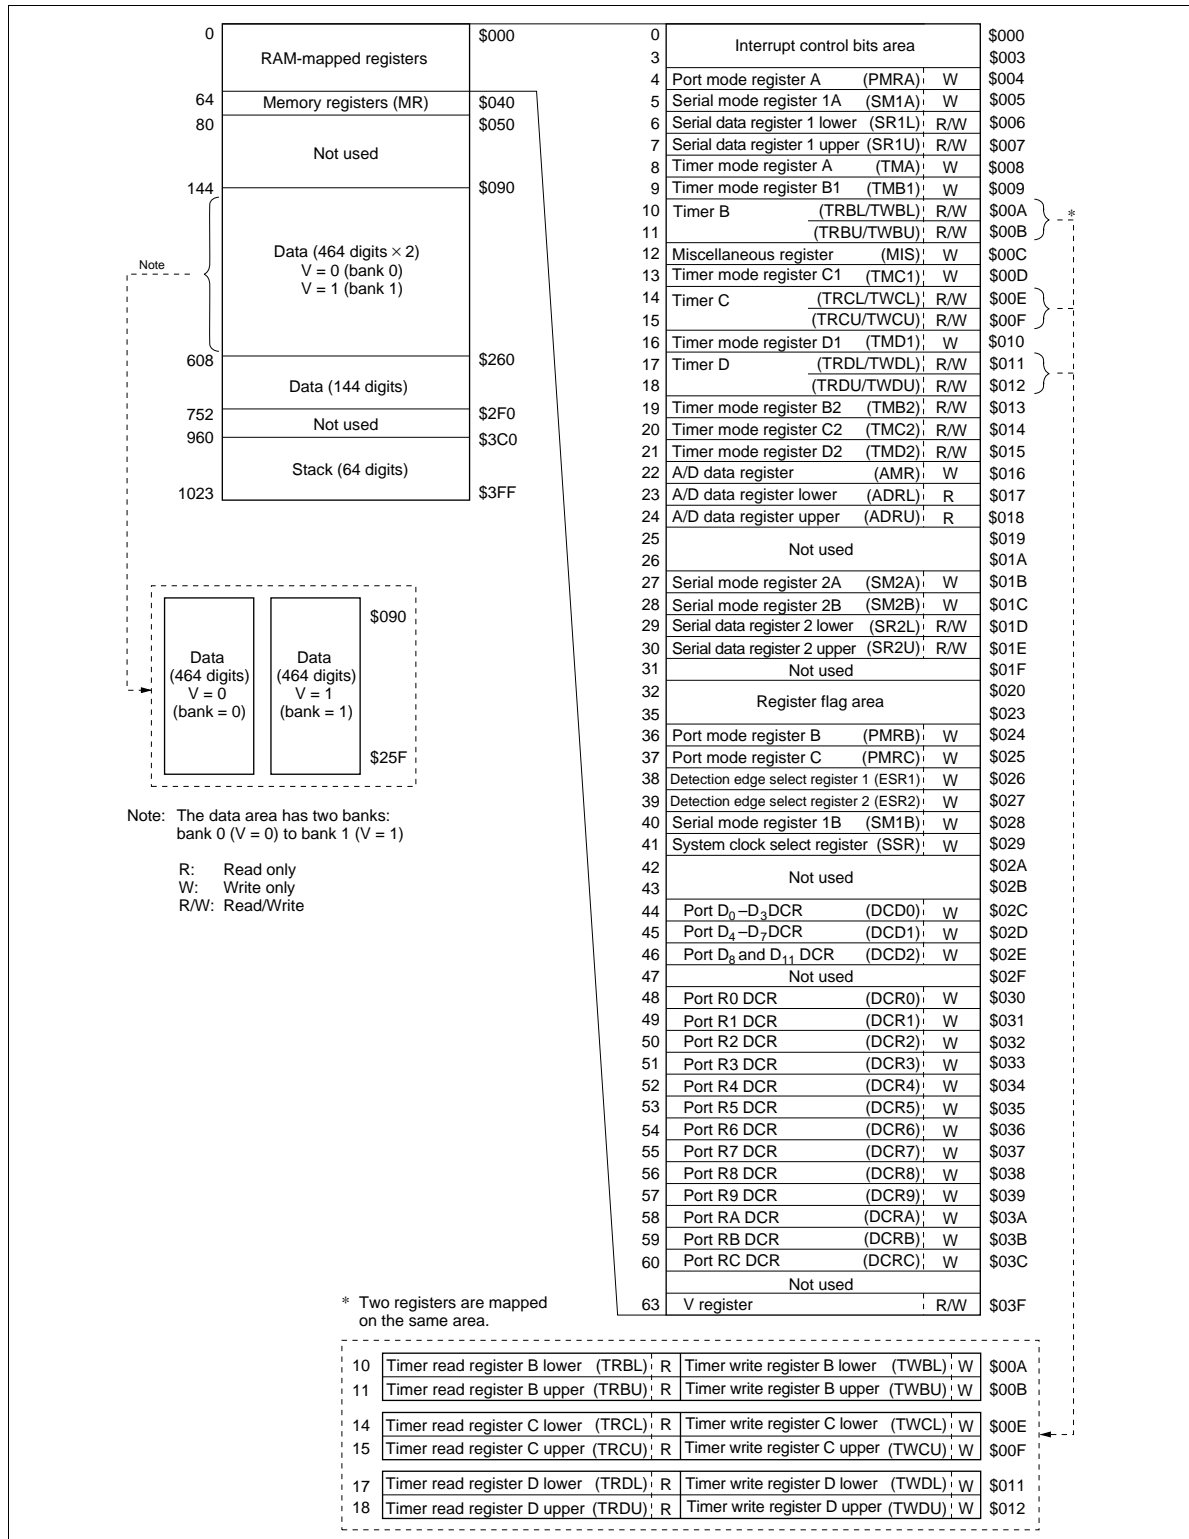

Figure 2 RAM Memory Map
The MCU contains a 1,152-digit × 4-bit RAM area consisting of a memory register area, a data area, and a stack area. In addition, an interrupt control bits area, special register area, and register flag area are mapped onto the same RAM memory space as a RAM-mapped register area outside the above areas. The RAM memory map is shown in figure 2 and described as follows.
This area is used as mode registers and data registers for external interrupts, serial interface 1, serial interface 2, timer/counters, A/D converter, and as data control registers for I/O ports. The structure is shown in figures 2 and 5. These registers can be classified into three types: write-only (W), read-only (R), and read/write (R/W). RAM bit manipulation instructions cannot be used for these registers.